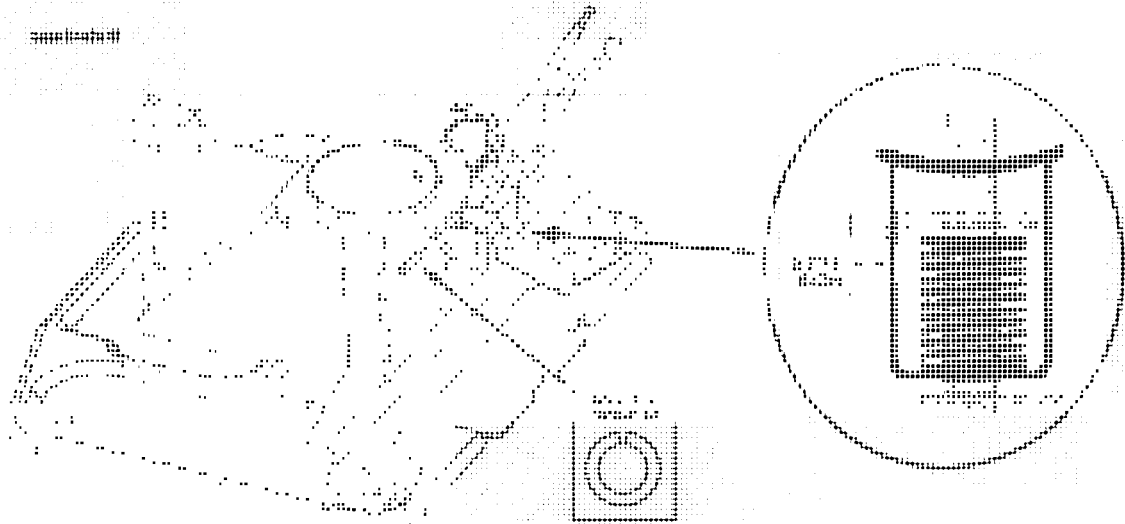

FIGURE 15.
9. Using a roll pin, temporarily secure the tension spring. Use a hammer to install the new roll pin. See FIGURE 15. The roll pin is correctly installed when the following conditions are met: